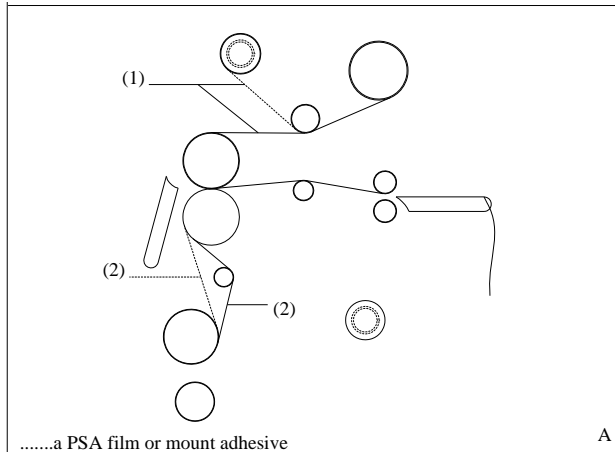

FIGURE 29
1. Cut (1) remaining top film web between the idler bar and heat roller. Cut (2) the film web between the lower film supply and the idler bar (FIGURE 29).